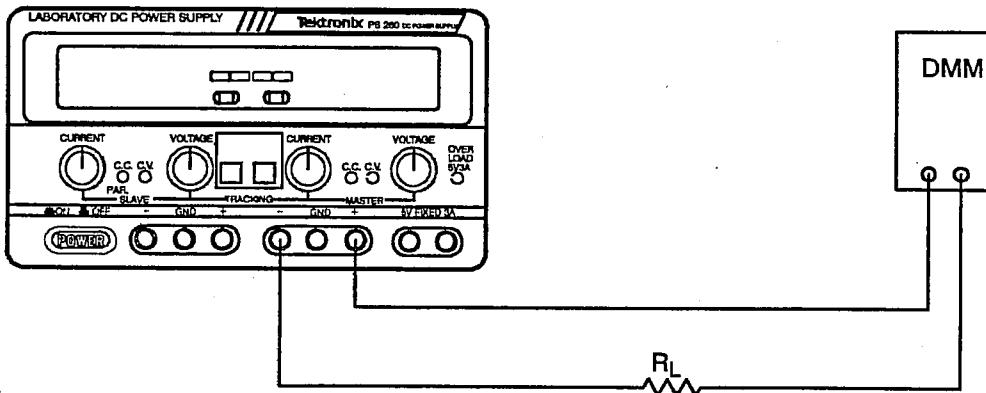

Figure 4-3: Constant Voltage Test Setup
- Connect the digital multimeter and load resistors to the + and - terminals of the Master output as indicated in Figure 4-3. See Table 4-4 for the appropriate values of the load resistor.
- Connect the digital multimeter and load resistors to the + and - terminals of the Slave output as indicated in Figure 4-3. See Table 4-4 for the appropriate values of the load resistor.
- Connect the digital multimeter and load resistors to the 5 V FIXED terminals. Use the test setup illustrated in Figure 4-3 and see Table 4-4 for the appropriate values of the load resistor.